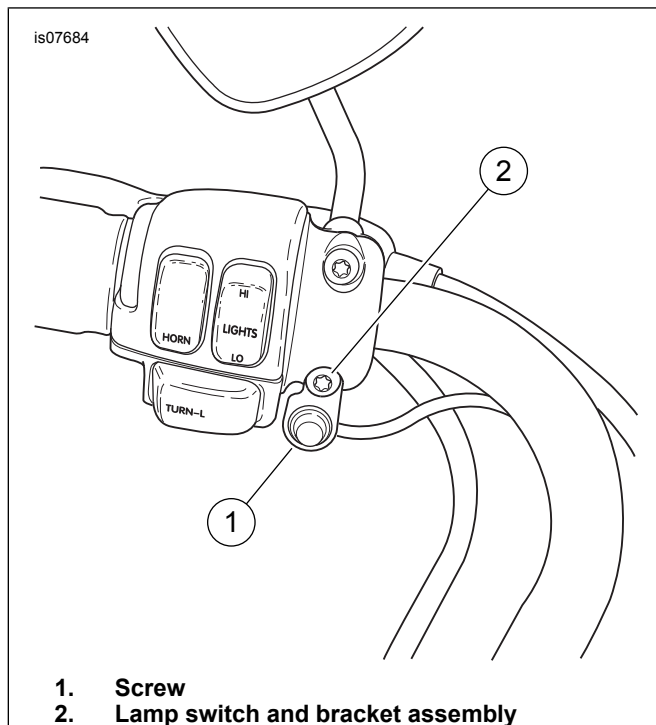

Figure 3. Install Lamp Switch on Clutch Control Clamp
10. See Figure 3. Remove the lower screw (1) and washer from the clutch control clamp. Install the lamp switch and bracket assembly (2) with the screw and washer. Tighten to 7–9 N·m (60–80 in-lbs).